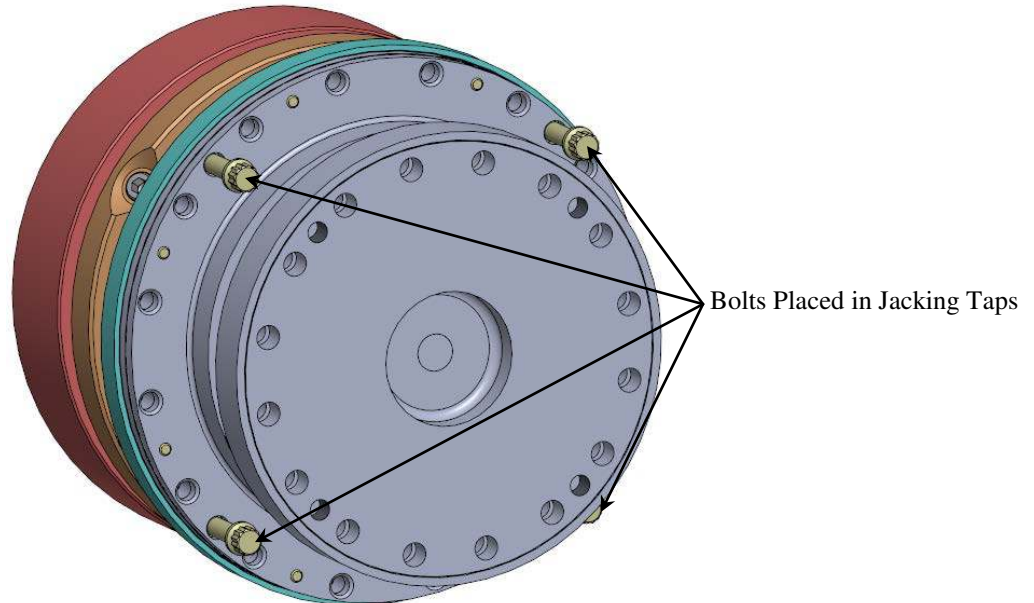

Figure 18 – Bolts in Jacking Taps for Flex Assembly Removal
5.2.2 Insert (4) of the removed 1/4-28 bolts in the jacking taps of the joint as shown in Figure 18.